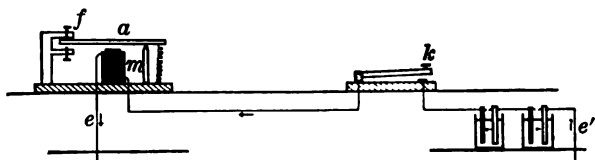

FIG. 221
**340. The Telegraph.** — This is a simple device which makes use of the magnetic effect of a current. In Fig. 221 the *key*, *k*, and the *sounder* are in circuit with a battery. As with the telephone, the circuit is completed through the earth.